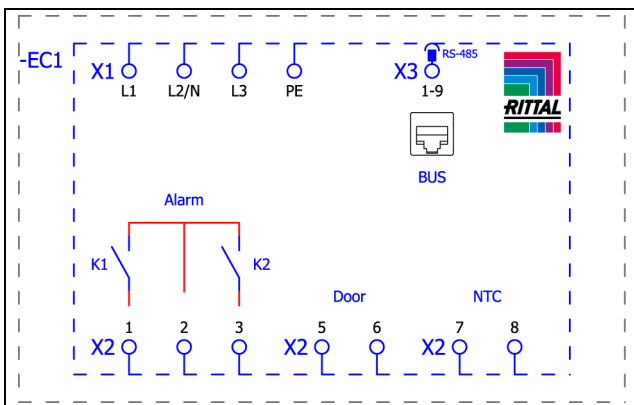
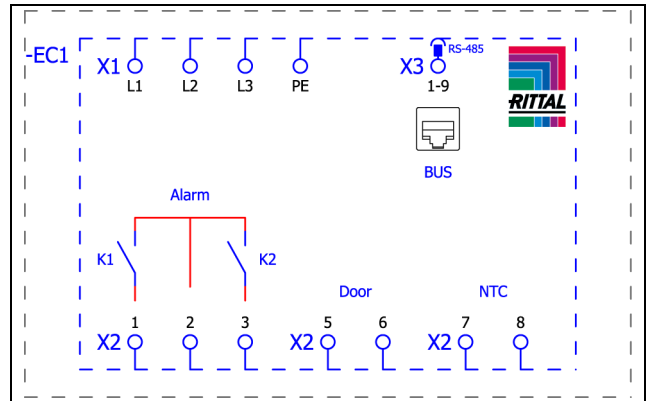

Fig. 17: Circuit diagram SK 3484837, SK 3485x3x, SK 3486x3x and SK 3487x3x
Fig. 18: Circuit diagram SK 3488x4x and SK 3489x4x
- Remove the mains connector from the dispatch bag and connect to the mains as shown on the connection diagram (fig. 17 or fig. 18).